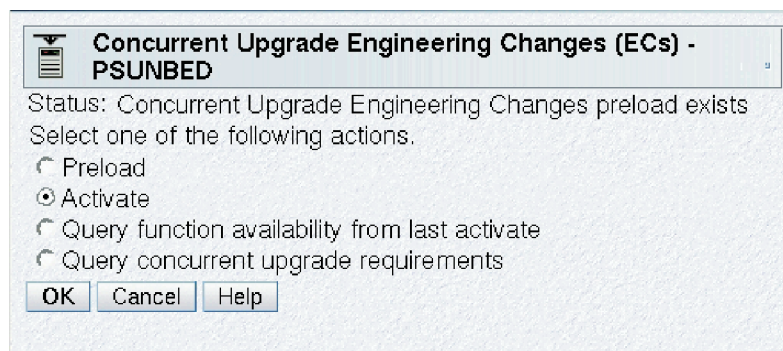

Figure 54. Activate option
1. Select **Activate** as shown in Figure 54 on page 212. (This option is available only if your user ID is assigned the service representative task role.)